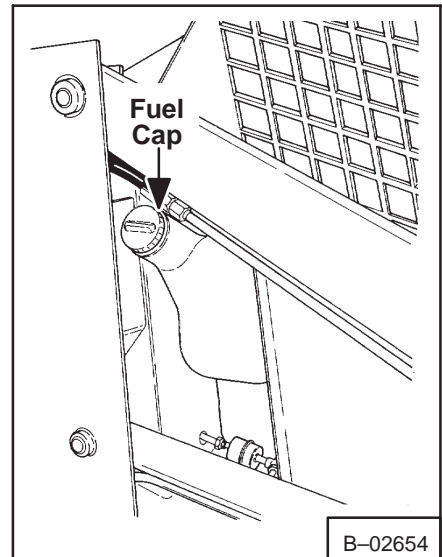

Fig. 1-20 Fuel Fill Location
2. Remove fuel cap (Fig. 1-20) and fill tank with clean fuel using an approved safety container.